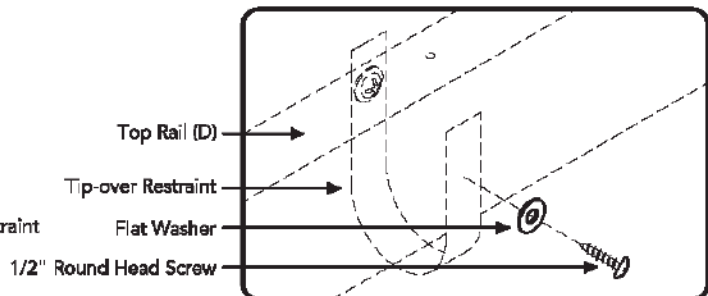

Figure 8
Attach Tip-over Restraint to inside of Top Rail (D) with 1/2" Round Head Screw and Flat Washer. (See Figure 8)